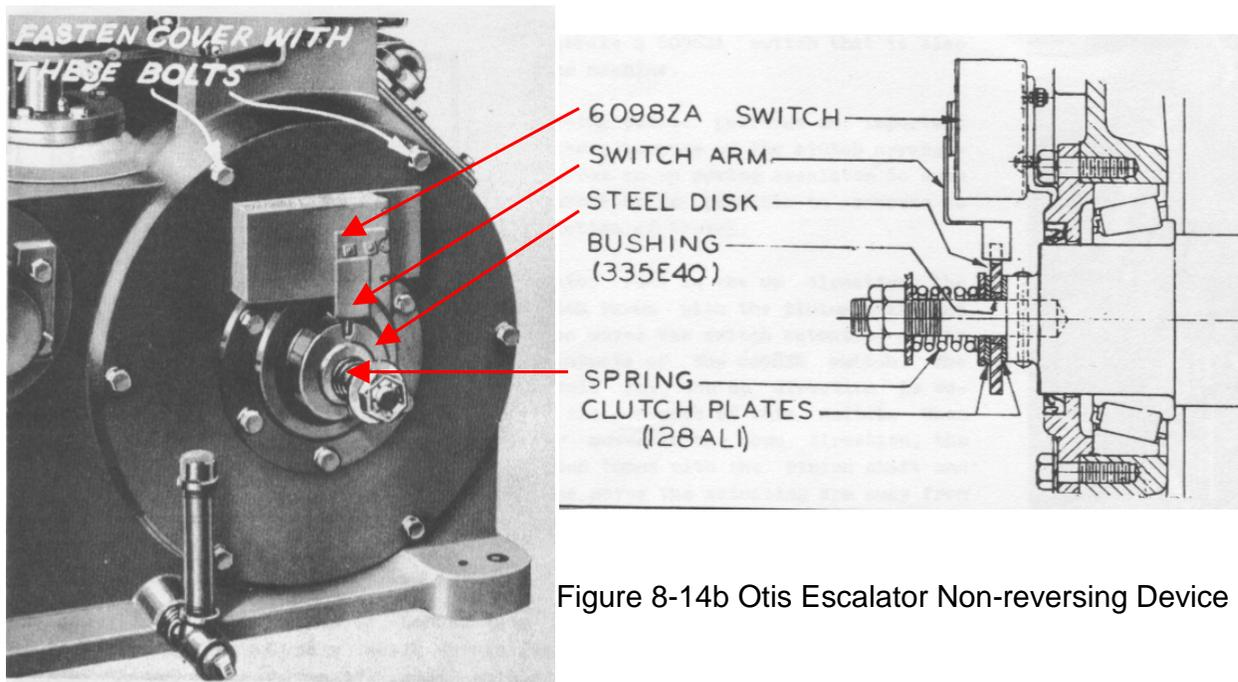

Figure 8-14b Otis Escalator Non-reversing Device
Otis Escalator J –Series (figure 8-14b). Clean and inspect reversal stop device of the friction clutch type located at the end of the pinion shaft.
2. Refer to figure 8-14b page 5, Otis Escalator. Will the steel disk continually spin with the rotor shaft?